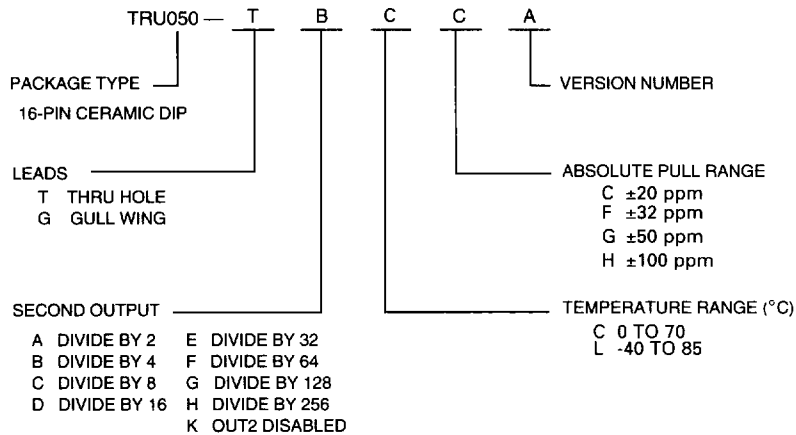

Figure 6. Part Numbering Information
2. OUT2 is a binary submultiple of OUT1, as specified in the device code shown in Figure 6. OUT2 may also be disabled.
Absolute pull range (APR) is specified by the fourth character of the product code (see Figure 6). The APR is the minimum guaranteed frequency shift from F₀ over variations in temperature, aging, power supply, and load. Both frequency and environment limit the specified APR. **The total pull range for the VCXO contained in the TRU050 is typically between 200 ppm and 400 ppm.**